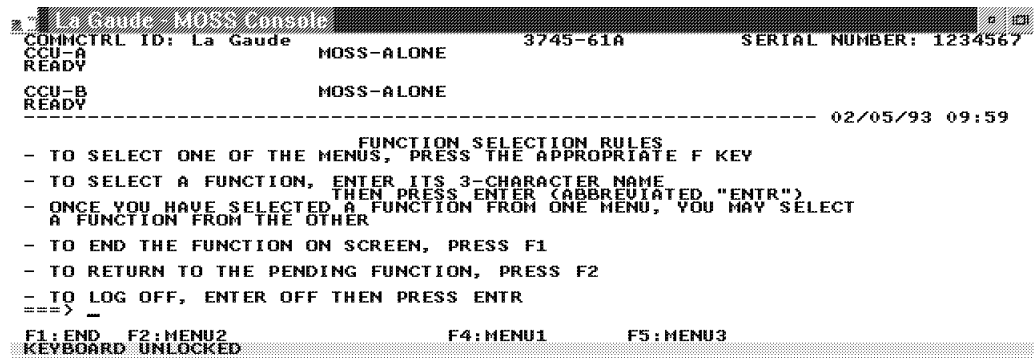

Figure 5-2. MOSS Primary Menu
- d. ____ From the MOSS primary menu (see Figure 5-2), **type CDF** and **press ENTER**.